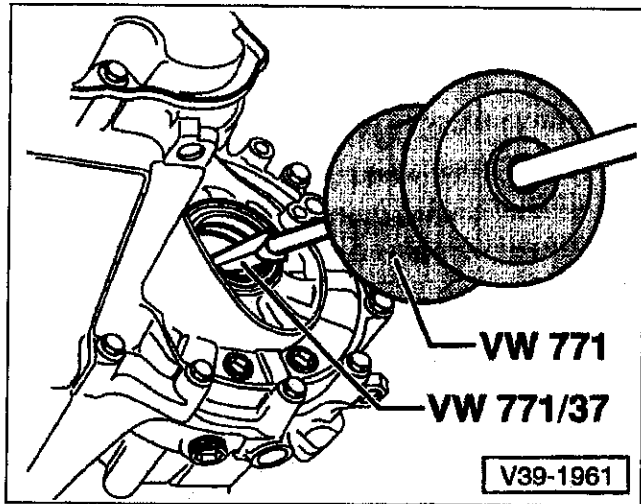

Fig. 12. Drive flange oil seal being removed using slide hammer and hooked adapter (Volkswagen special tool no. VW 771 and VW 771/37).
8. Remove oil seal from transmission housing. See Fig. 12.